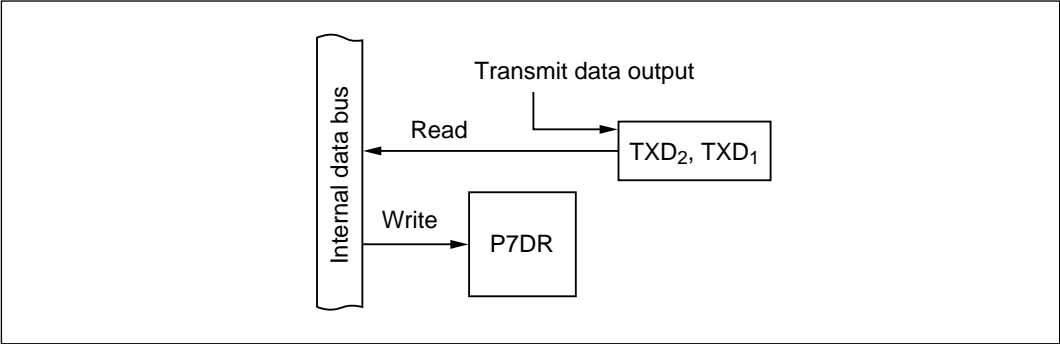

Figure 9-48 TXD₂ and TXD₁ Output (Modes 1 to 7)
(5) **TXD₂ and TXD₁ Output (P7₄ and P7₂: Modes 1 to 7):** Figure 9-48 shows a block diagram illustrating the TXD₂ and TXD₁ output function. Table 9-38 indicates register read/write data. When P7₄ and P7₂ are used for TXD₂ and TXD₁ output, the value written in P7DR is ignored, but P7DR can be read to monitor the levels at the TXD₂ and TXD₁ pins.